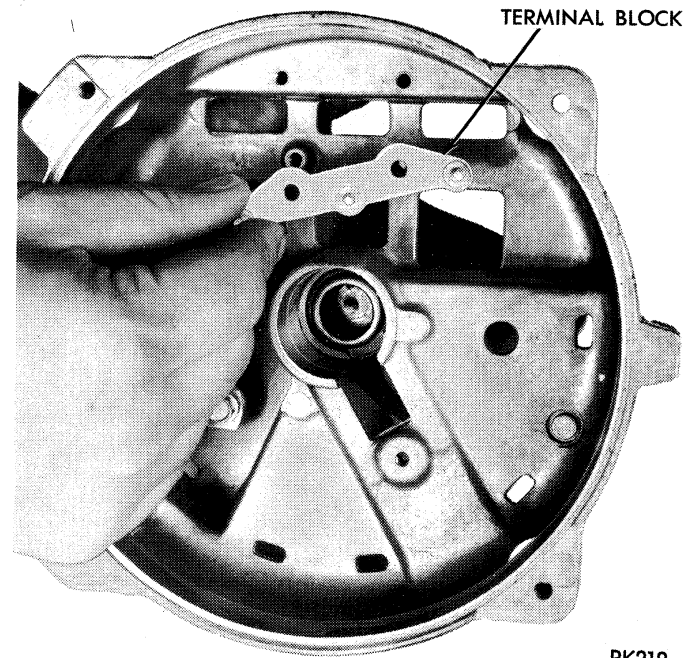

Fig. 63—Installing Terminal Block
(6) Position terminal block into place in rectifier end shield, install mounting screws and tighten 30-40 in.-lbs. (Fig. 63).